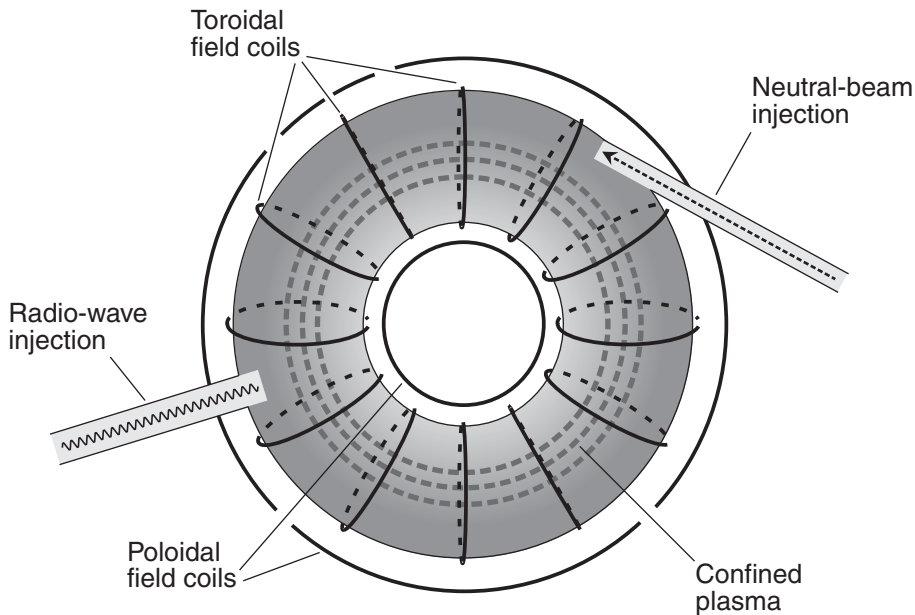

Figure 12-4 Functional diagram of a tokamak, showing plasma confinement coils and two methods of heating the plasma.
The most promising method of magnetic confinement makes use of an evacuated toroidal (donut-shaped) enclosure called a *tokamak*. This term is an acronym derived from a Russian descriptive phrase that translates as “toroidal chamber and magnetic coil.” The plasma is contained inside the tokamak. Two sets of coils, called the *toroidal field coils* and the *poloidal field coils*, surround the toroidal enclosure (see Figure 12-4). The coils carry electric currents that produce strong magnetic fields. An electric current of up to five million amperes (5,000,000 A), provided by a large transformer, travels through the plasma around the toroid in a circular, endless loop. This plasma current creates a magnetic field of its own. The magnetic fields from the currents in the coils and the plasma interact, confining the plasma, aligning it within the tokamak chamber, and forcing it toward the center of the chamber cross section, keeping it away from the walls. This is important, because the plasma must
- **Radio-wave injection** Done by transmitting electromagnetic (EM) waves into the plasma at several points in the chamber. These waves have a frequency such that their energy is absorbed by the plasma. Figure 12-4 shows one point of neutral-beam injection and one point of radio-wave injection.